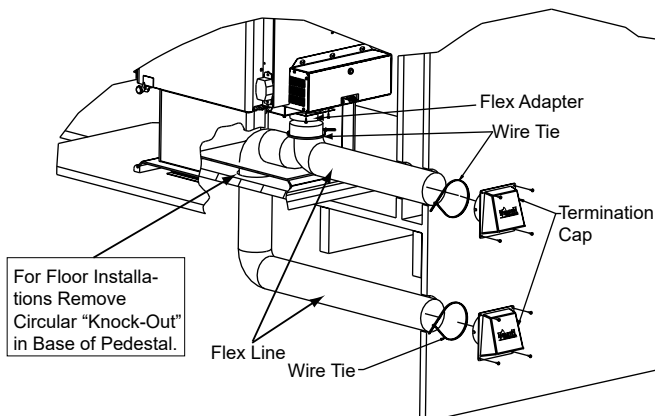
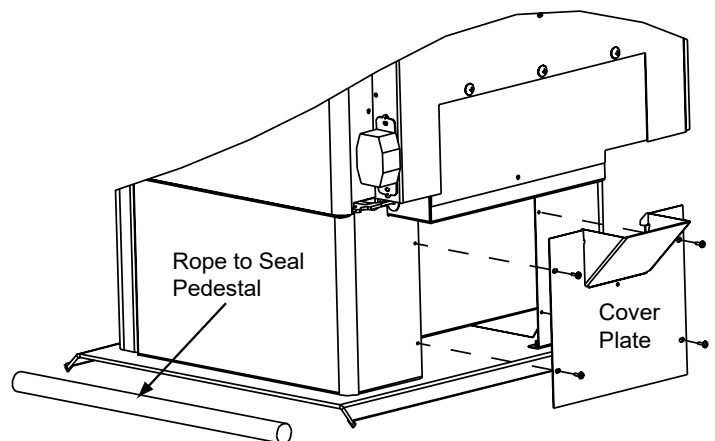

Figure 26.1 - Floor & Rear Installation
Figure 26.2 - Floor Installation Alternative
2. Using a #2 Phillips screw driver attach the flex adapter to the appliance using 4 screws (**Figure 26.1**).
In some instances you may not be able to install the flex pipe as show in **Figure 26.1**. If that is the case, you will need to use a cover plate and a sealing rope that is shown in **Figure 26.2**.